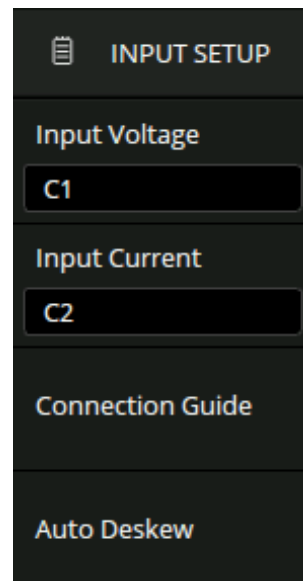

Figure 19.11 Input Setup Menu
1. Touch **Input Setup** to display the signal menu shown in figure 19.11.